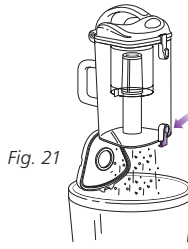

Fig. 21
- 2 Hold the dust cup over a trash receptacle and press the bottom door release button. **(Fig. 21)** Tap gently to empty contents. Press the door shut again until it clicks.